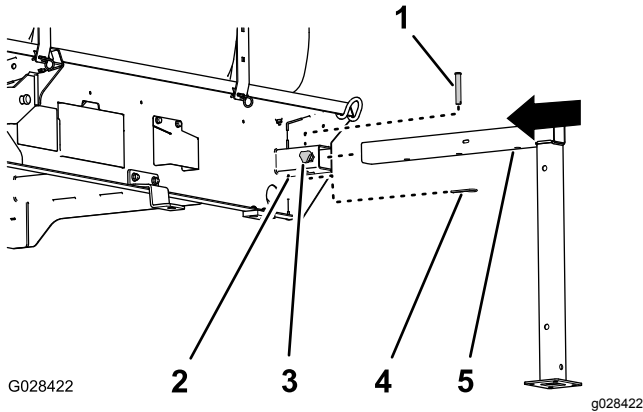

Figure 130
1. Align the front jackstand with the jackstand receiver at the front of the tank (Figure 130).
2. Insert the jackstand into the receiver until the middle hole in the horizontal jackstand tube is aligned with the hole in the top of the receiver (Figure 130).
4. Thread a lock knob into the receiver and tighten the knob by hand (Figure 130).